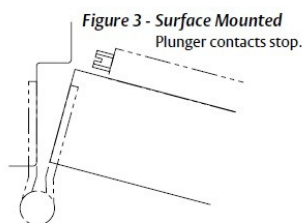

Figure 3 - Surface Mounted
- For surface mounted installation, the plunger contacts the stop (as shown in Figure 3).